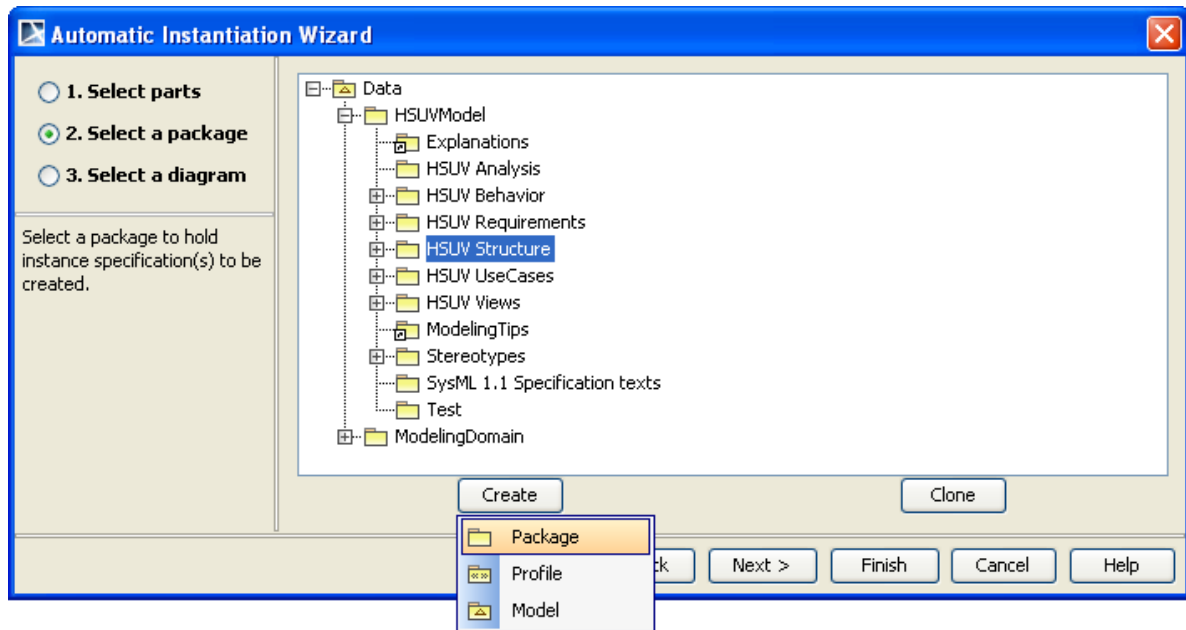

Figure 31 -- Automatic Instantiation Wizard - Step 2. Select a package
- To create a new package, select the package owner in the tree and click the **Create** button. A list of packages will open. Choose a package (**Package**, **Profile**, or **Model**) from that list. A package will be created and its specification dialog will open for you to customize, for example, assigning the package name (Figure 31).